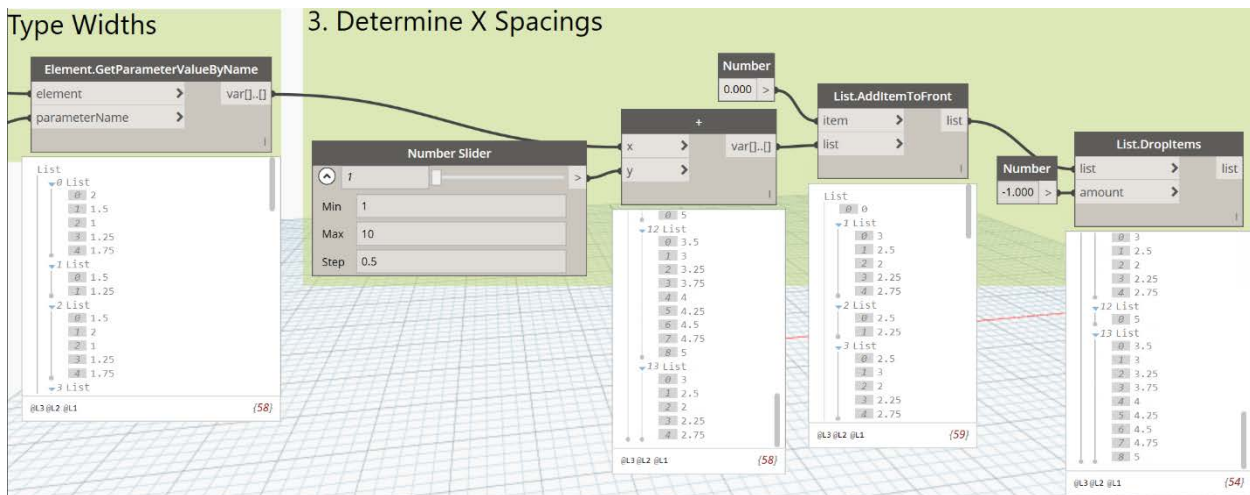

Figure 50
30. Wire and group the nodes as indicated in Figure 50.